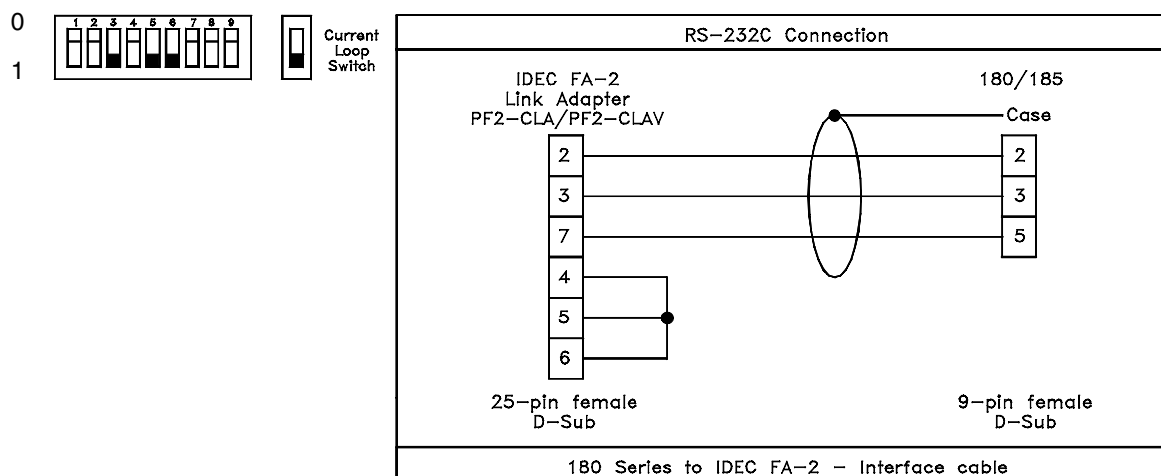

Figure 8-6
**8 PLC Data****Figure 8-5****IDEC FA-2/FA-2J/FA-3S/FA2-5M PLC DRIVER ATTRIBUTES***(See figure 8-6)*